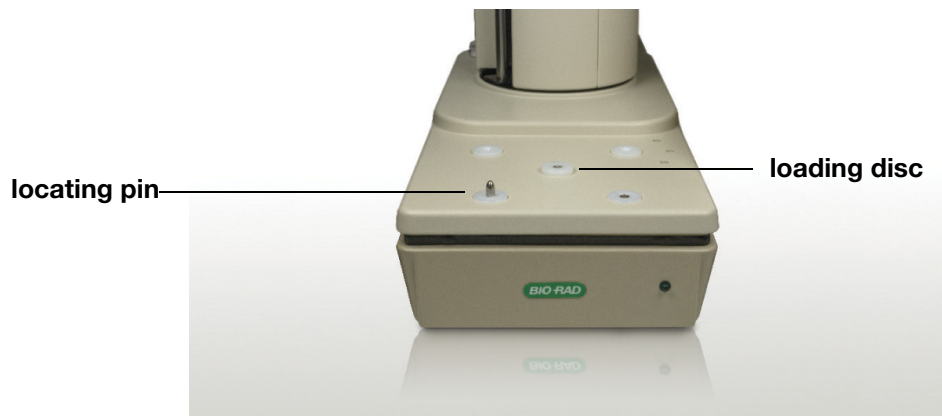

Figure 8. Front view of input rack.
- Locate the hole for the rack locating pin in the bottom of the rack (Figure 8).